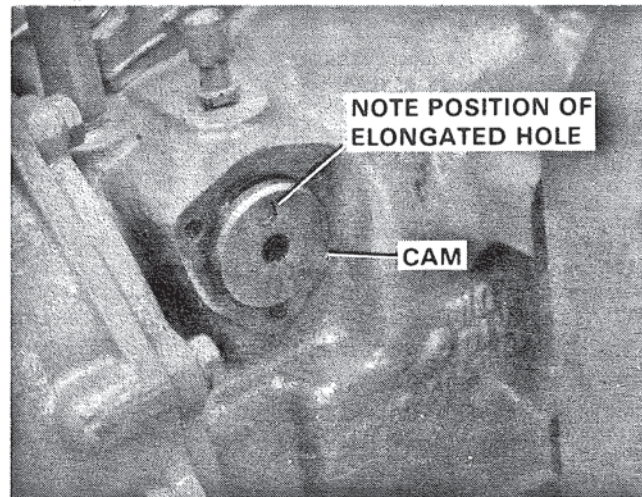

Figure 97. Neutral Switch Cam in Correct Position.
3. Neutral switch cam correctly assembled. Figure 97.